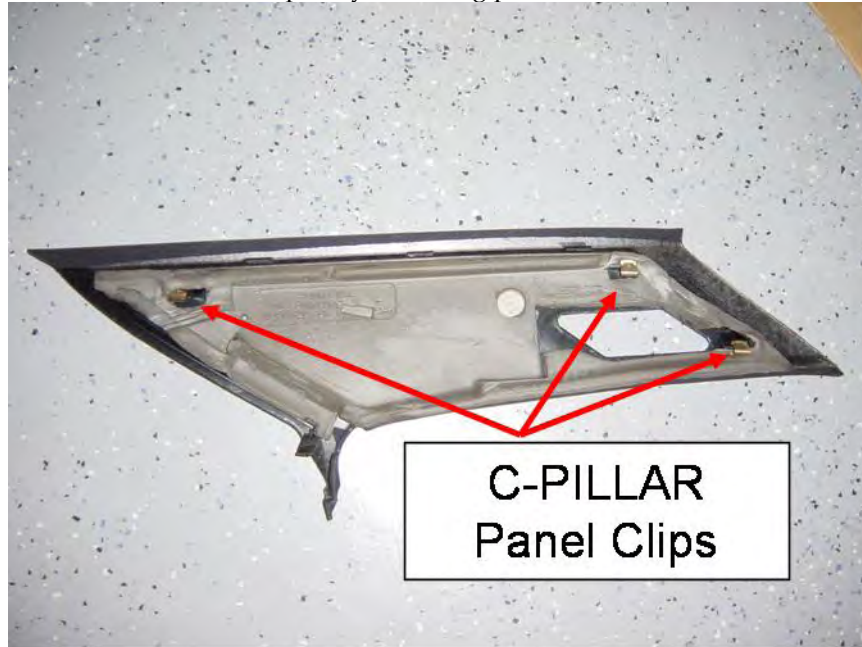
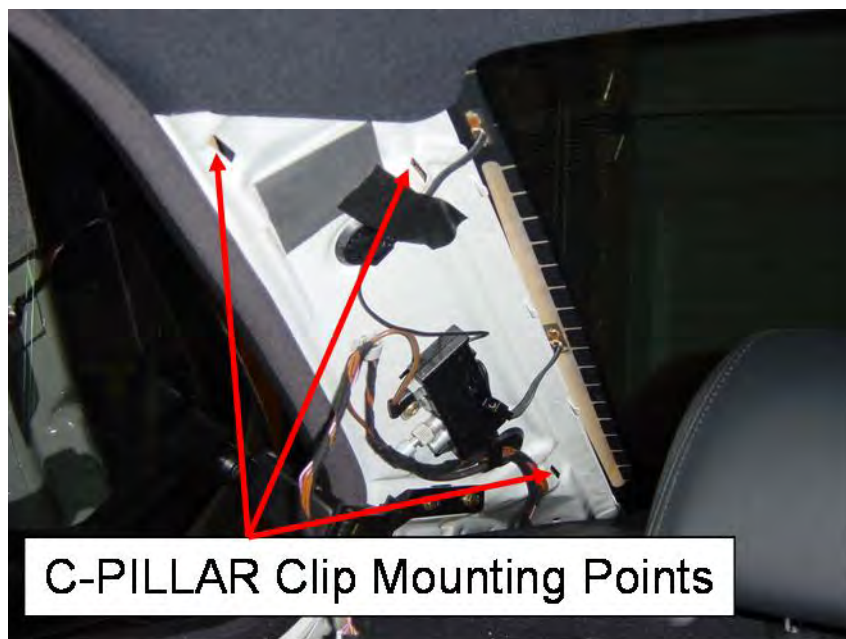

Figure 17 – Back of C-Pillar Panel with Clips Identified
Figure 18 – C-Pillar Clip Mounting Points Identified
- 5.16.1 There are three clips holding each C-Pillar panel in place (See Figure 17 and Figure 18). Pull the C-Pillar panel away from the C-Pillar body starting from the top until all three clips are removed. Note that the light is connected via wiring harness so it will need to be removed before completely removing panel.